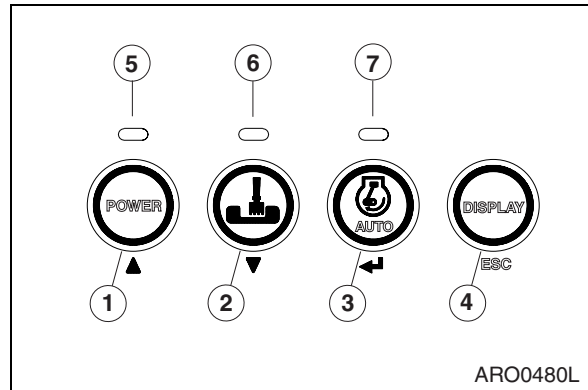

Figure 46
2. Select the work mode using button (2, Figure 46) before starting work.
3. When the work mode button (2, Figure 46) is pressed, a signal sounds, changing the work mode to either "Digging Mode" or "Trenching Mode." When the trenching mode is selected, the LED indicator (6, Figure 46) turns "ON." When the digging mode is selected, the LED indicator (6, Figure 46) turns "OFF."
3. When the LED indicator (7, Figure 46) is turned "ON," the auto idle function is activated. Deactivate the auto idle function by again pressing the auto idle selector button (3, Figure 46). At this time the LED indicator will be turned "OFF."